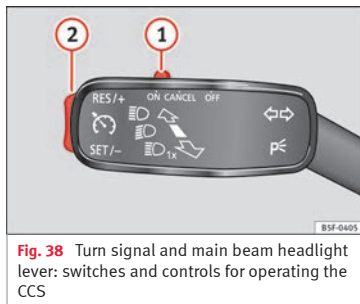

Fig. 38 Turn signal and main beam headlight lever: switches and controls for operating the CCS
- Switching on the CCS: Move switch »» Fig. 38 ① to **ON**. The system is on. If no speed has been programmed, the system will not control it.
- Activating the CCS: Press button »» Fig. 38 ② in the **SET/-** area. The current speed is memorised and controlled.
- Temporarily switching off the CCS: Move switch »» Fig. 38 ① to **CANCEL** or push the brake. The cruise control system is switched off temporarily.
- Reactivating the CCS: Press button »» Fig. 38 ② in **RES/+**. The memorised speed is saved and controlled again.
- Increasing stored speed during CCS regulation: press button ② in **RES/+**. The vehicle accelerates until the new stored speed.
- Reducing stored speed during CCS regulation: press button ② in **SET/-** to lower the speed by 1 km/h (1 mph). Speed is reduced until reaching the new stored speed.
- Switching off the CCS: Move switch »» Fig. 38 ① to **OFF**. The system is disconnected and the memorised speed is deleted.